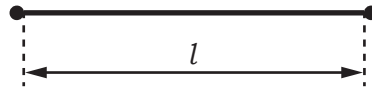

Fig. 2.3
(iii) Fig. 2.3 shows wire X.
- On Fig. 2.3, measure the length  $l$ .
- The wire in Fig. 2.3 is shown to 1/3rd scale. Calculate the actual length  $L$  of wire X.